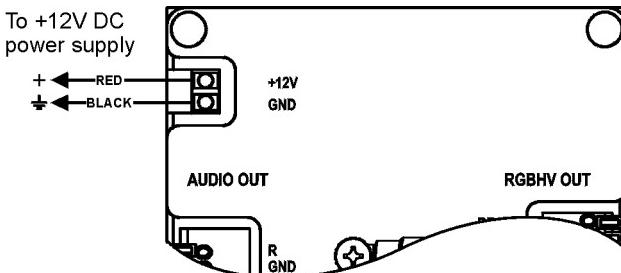

Figure 6: WP-101 Power Supply Connection
The power supply connections are illustrated in Figure 6.
To connect the power supply to the WP-101, as illustrated in Figure 6:
4. Connect the supplied 12V DC power adapter to the power terminal block (see Figure 6).